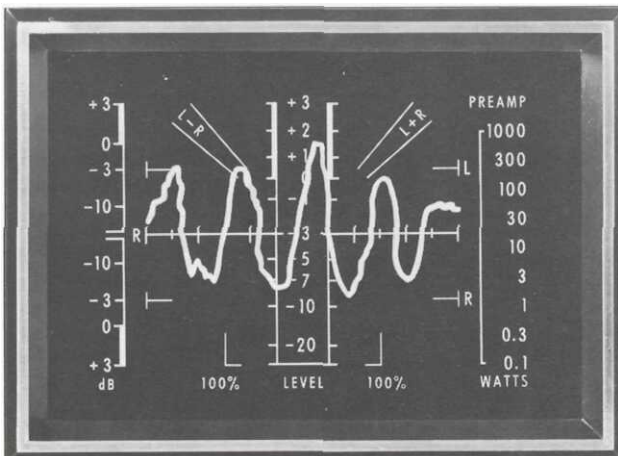

FIG. 10 SINGLE TRACE DISPLAY
14. Adjust the top panel SWEEP EXPANSION control to obtain the pattern shown in Figure 10. The control should position near the 1 marking.
15. Depress the front panel R button. Determine that the pattern is similar to that obtained in Fig. 10.